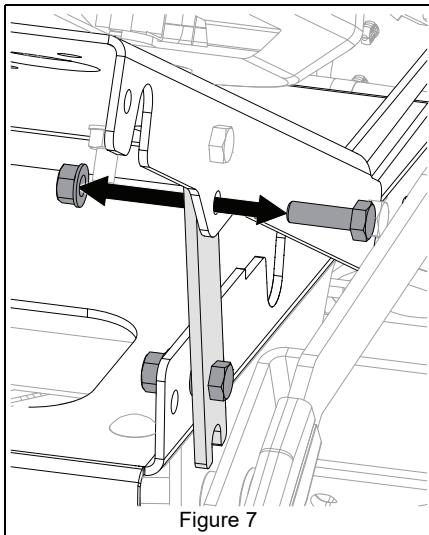

Figure 7
11. Remove and retain hardware securing seat to upper seat bracket. Repeat on opposite side of unit. See Figure 7.